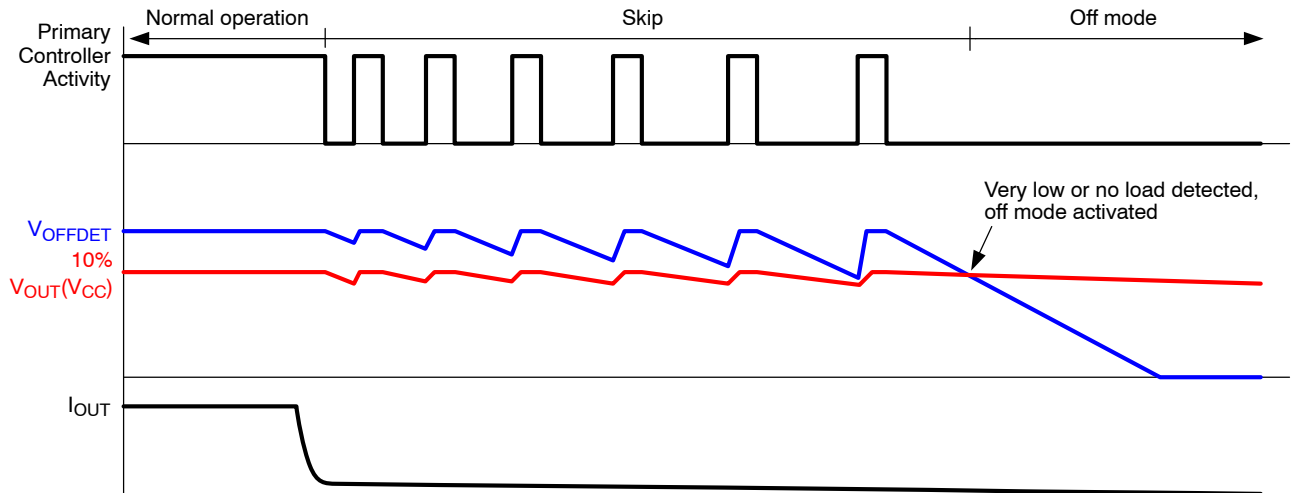

Figure 27. OFF Mode Detection
The OFF mode detection is based on comparison of output voltage and voltage loaded with fixed resistances (D2, C2, R7 and R8). Figure 27 shows detection waveforms. When output voltage is loaded with very low current, primary controller goes into skip mode (primary controller stops switching for some time). While output capacitor C1 is discharged very slowly (no load condition), a fixed load R7 and R8 discharges the capacitor C2 faster than load current discharges output voltage on C1.
While both C1 and C2 are discharged during the missing cycles, C2 discharge will be faster than C1 without output current,  $V_{OFFDET}$  drops below  $V_{OFFDETTH}$  and OFF mode is detected (7). This situation is shown in Figure 27 in detail. When OFF mode is detected, current into ONOFF pin stops to flow (7) and voltage at primary REM pin increases over threshold level that forces primary controller into OFF mode. Internal pull-up current  $I_{BIASV}$  is switched on (7), VSNS pin voltage increases (thanks to  $I_{BIASV}$ ) and voltage amplifier sinks reduced current at time (8), when VSNS is higher than  $V_{REF}$  (9), to keep primary FB voltage below switching level until REM pin voltage is high enough.  $I_{BIASV}$  current stops when VSNS voltage drops below 90% of  $V_{REF}$ .